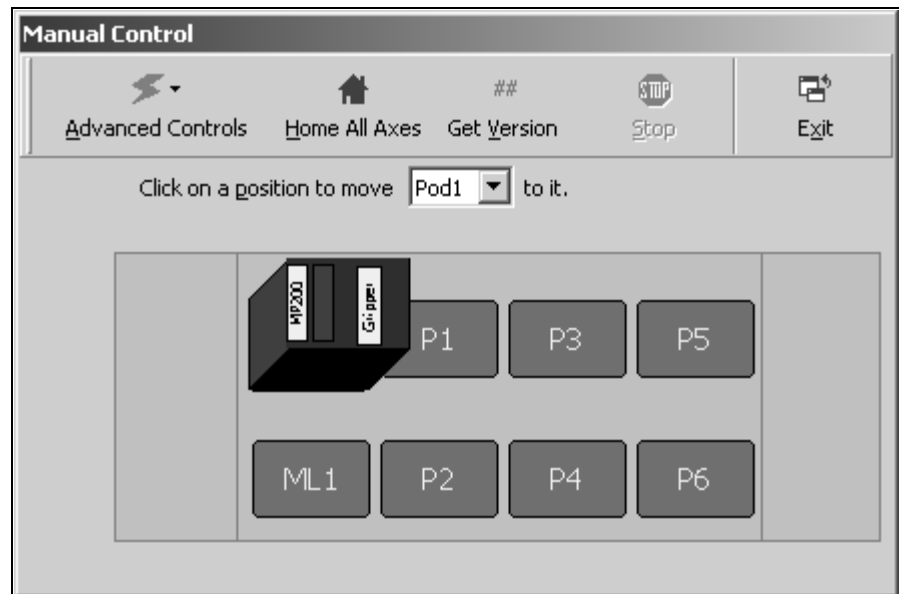

Figure 3-19. Manual Control
1. Choose **Instrument>Manual Control**. **Manual Control** appears (Figure 3-19). Here is where you can choose to which position you want to move a pod.